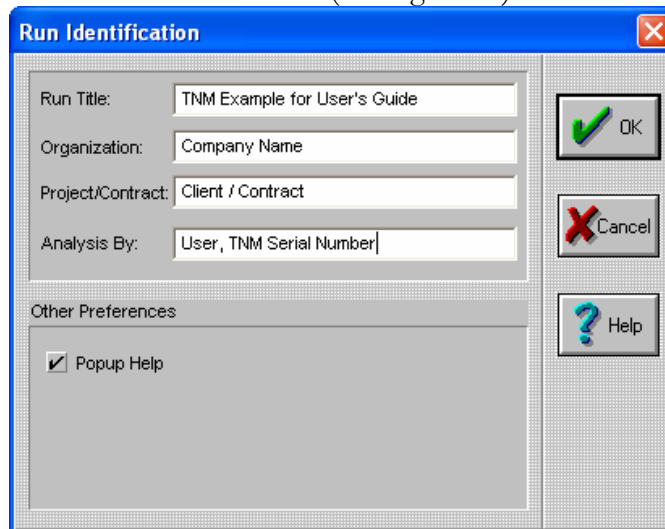

Figure 14. Run identification.
1. Select Setup, Run Identification in the main menu (see Figure 14).